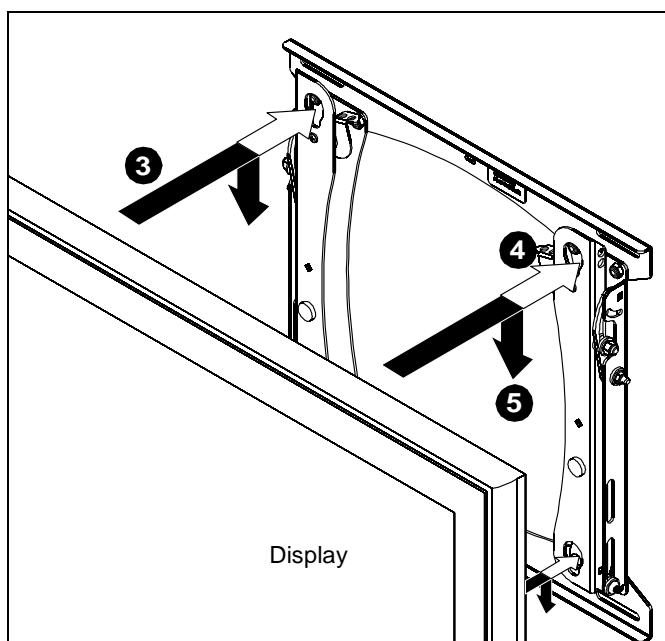

Figure 4
3. Align mounting buttons on display with teardrop mounting holes in mount. (See Figure 4)
4. Move display forward until recessed area of mounting buttons is positioned over lower area of teardrop mounting holes. (See Figure 4)
5. Lower display until recessed area of mounting buttons is seated in lower area of teardrop mounting holes. (See Figure 4)